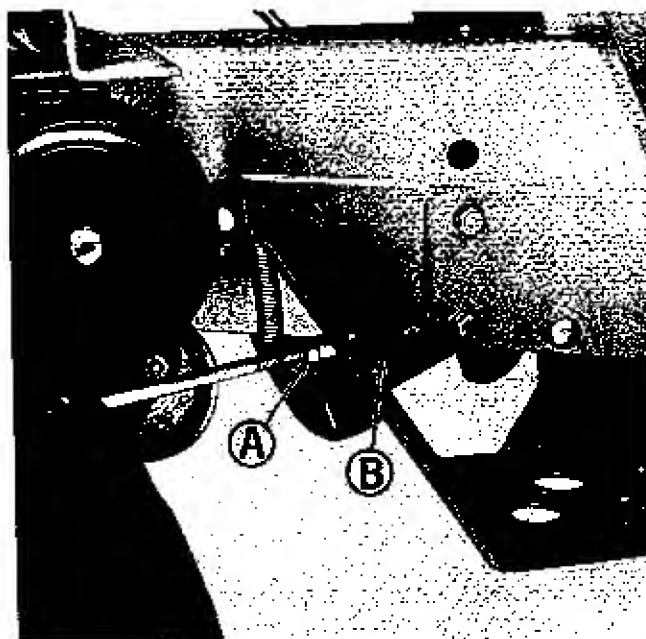

Figure 13. Parking brake adjustment on right side of tractor.
1. See figure 13. **NOTE: ALL DIRECTIONS GIVEN FOR ADJUSTING THE PARKING BRAKE, ARE AS IF YOU ARE STANDING AT THE FRONT OF THE TRACTOR LOOKING BACK TOWARD THE PARKING BRAKE.** Loosen nut (A) by turning it clockwise.
2. See figure 13. After insuring the tractor is either on a level surface or the wheels are blocked so it will not roll, pull forward on the parking brake handle (B) to disengage the parking brake.
3. Rotate parking handle (B) clockwise to tighten the parking brake, or counter-clockwise to loosen it. Turn the brake one complete revolution when making any adjustment. After turning the handle (B) one revolution place it in the engaged position to check it for correct adjustment. The correct engaged position is as shown in figure 13, with the handle at approximately in the 11 o'clock position as you